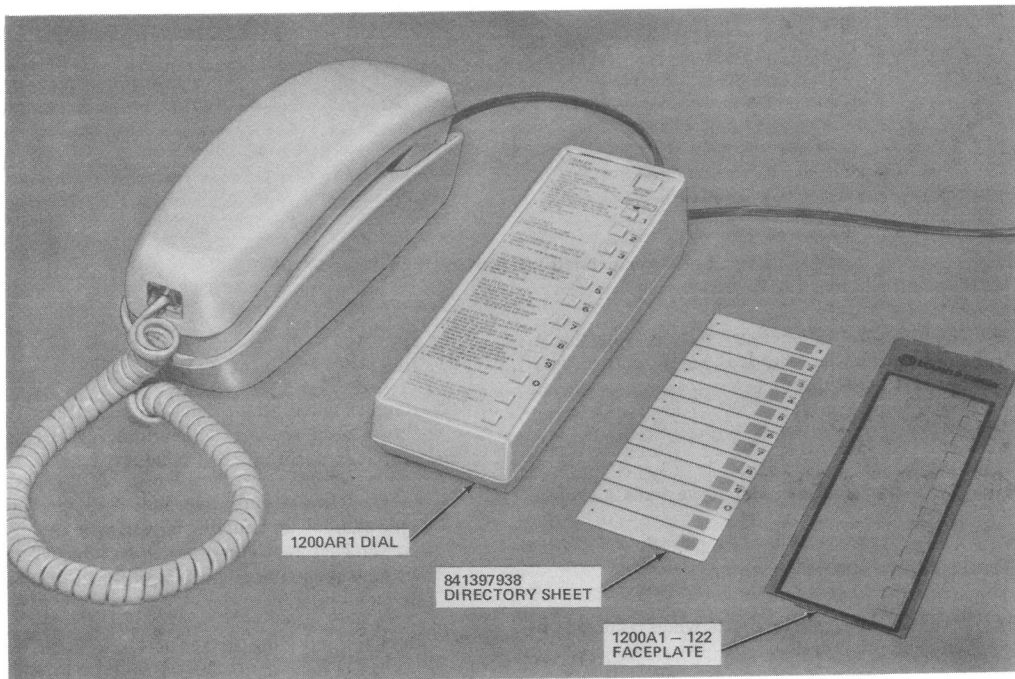

Fig. 6—1200AR1 Dial With Faceplate and Directory Sheet Removed
(1) Remove the dialer faceplate (Fig. 6 or 7) using fingernail in slot at top.
(2) Remove the directory sheet and write or type the desired name(s) and number(s). Replace the directory sheet on the dialer.